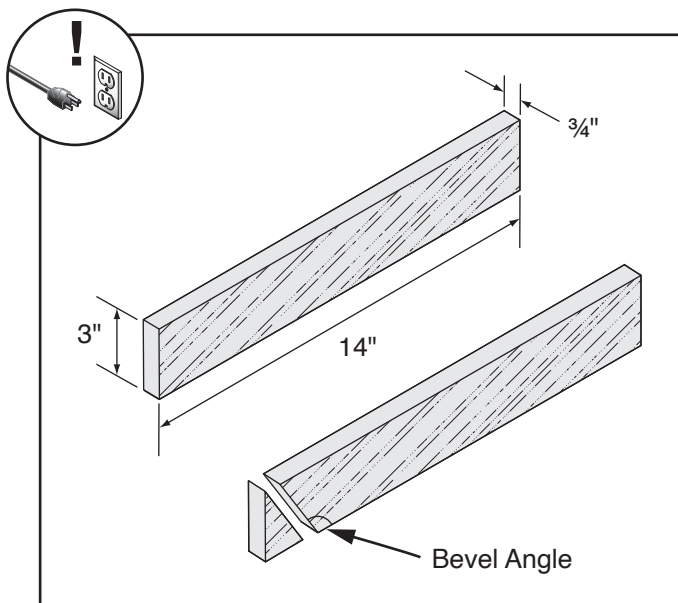

Figure 44. Auxiliary fence dimensions.
3. Cut piece of hardwood stock at least $\frac{3}{4}$ " thick to same height as existing miter fence, and at least 14" long (see **Figure 44**).
4. Mark and cut desired bevel angle (same as platen tilt angle) on one edge of board (see **Figure 44**).